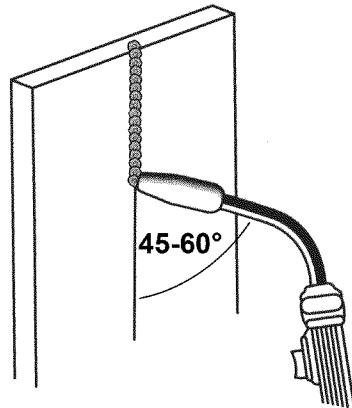

Figure 16. Vertical Position
3. The VERTICAL POSITION (Figure 16) is the next most difficult position. Pulling the torch from top to bottom may be easier for many people, but in some instances it can be difficult to prevent the puddle from running downward. Pushing the torch from bottom to top may provide better puddle control and allow slower rates of travel speed to achieve deeper penetration. When vertical welding, angle B (see HOLDING THE TORCH - p.20) is usually always kept at zero, but angle A will generally range from 45 to 60 degrees to provide better puddle control.